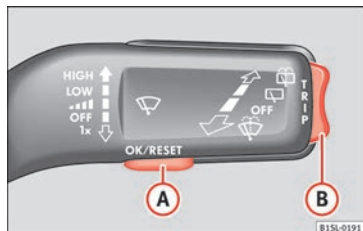

Fig. 33 Windscreen wiper lever: control buttons.
- If a message or vehicle symbol is displayed, press **OK/RESET** (» Fig. 33 **A**).
- Press the top or bottom part of the rocker switch » Fig. 33 **B** until the desired option appears.